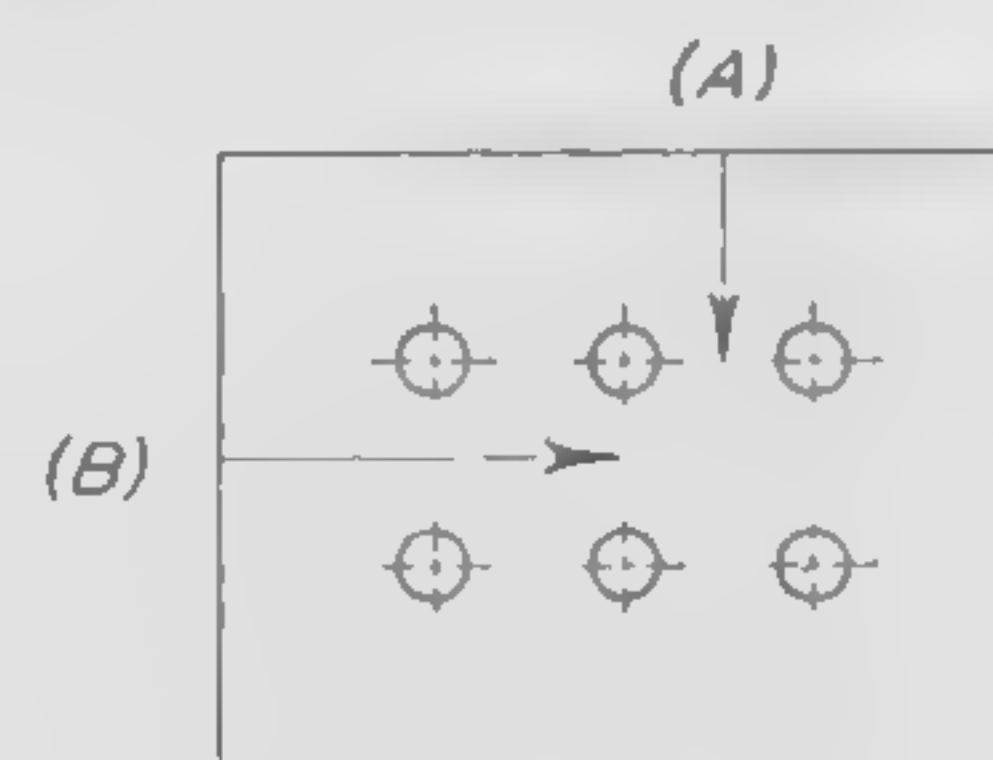

Fig. 5. Die Layout
In Fig. 5, all holes are located from both edges (A) and (B).